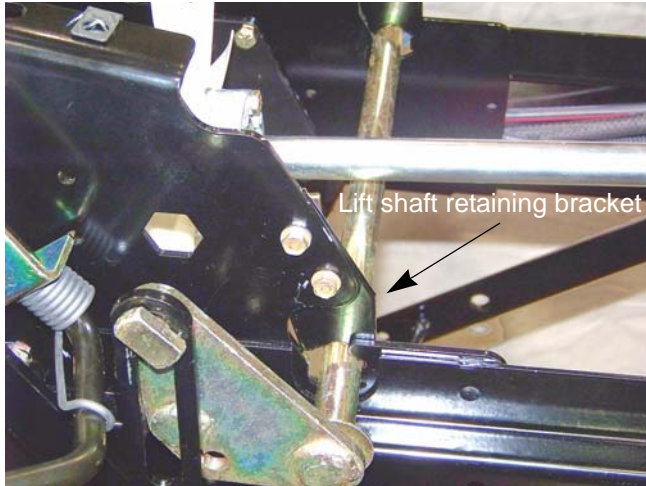

Figure 8.32
9. Remove the two screws that hold the lift shaft retaining bracket, on each side of the frame, using a 3/8" wrench. See Figure 8.32.
11. Remove the two screws that hold the lift shaft retaining bracket, on each side of the frame, using a 3/8" wrench. See Figure 8.32.